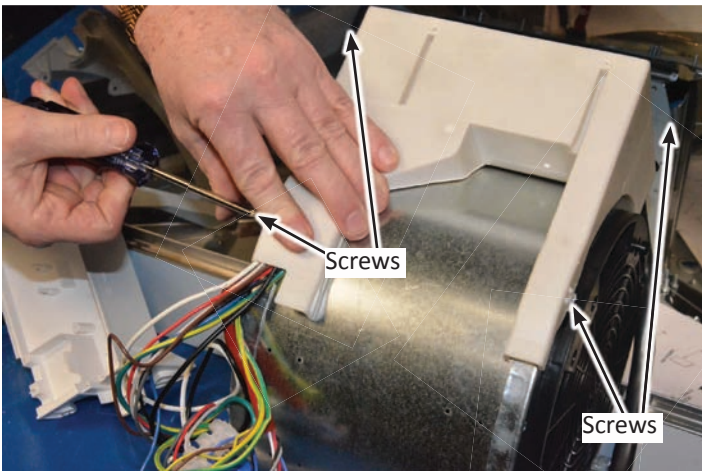

Figure 4
7. Remove (6) T10 Torx screws that mount the electrical housing around the motor, see figure 4 and 4a.